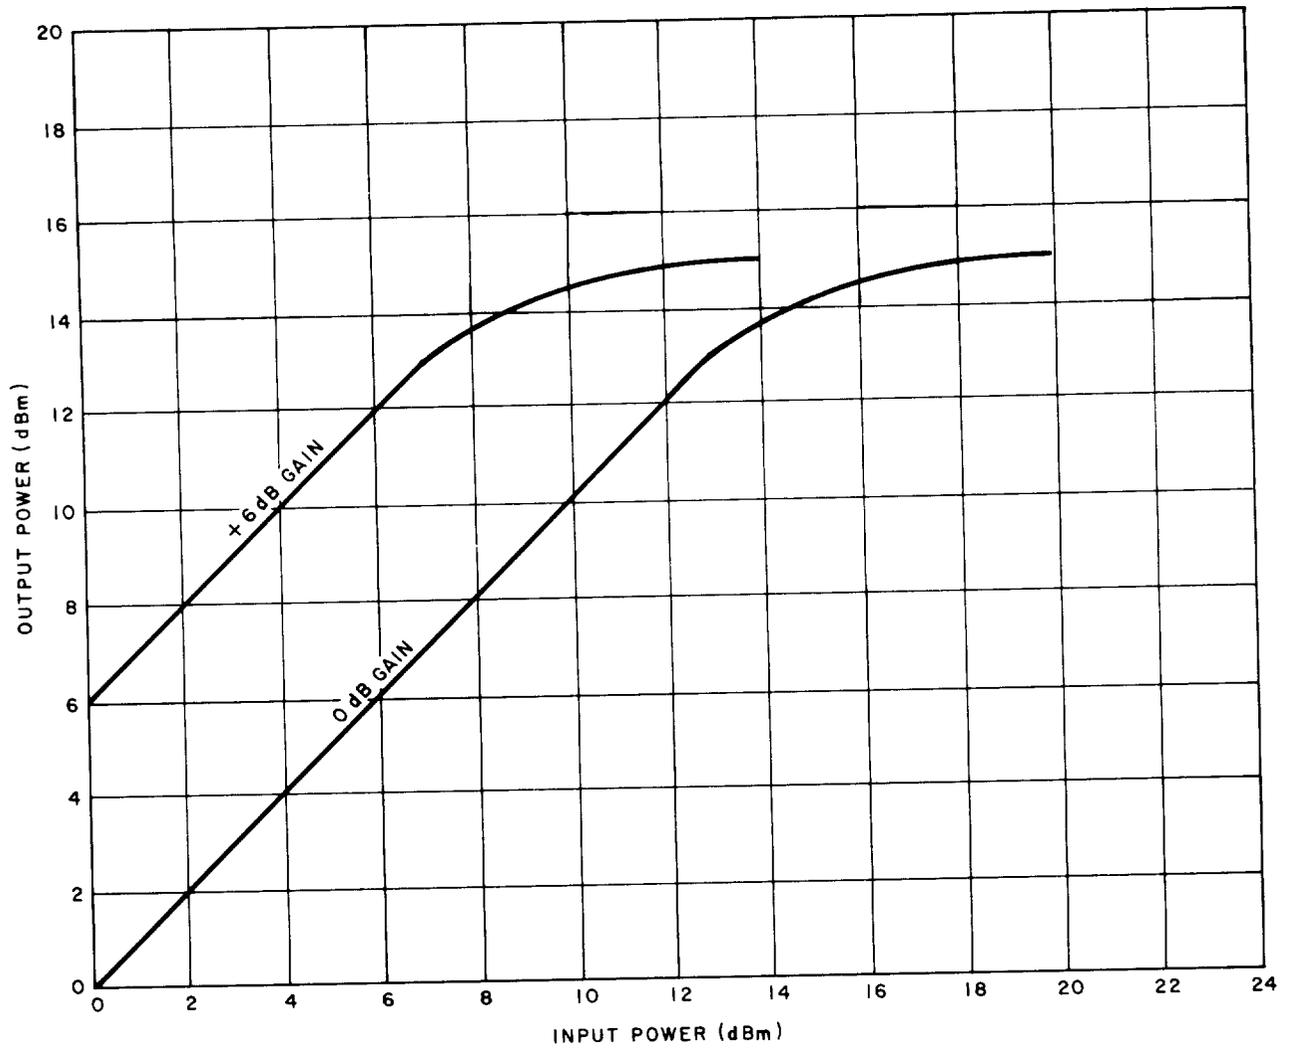

Fig. 8—Output Power Characteristic Curve
5.05 Figure 8 shows the output power capability of the ♦J99343GF (L1&L2) and GJ CFUs.♦ The output power is determined by input power and repeater gain, as shown by the +6 dB gain line in the figure. Power limiting occurs in this unit at about 13.5 dBm.